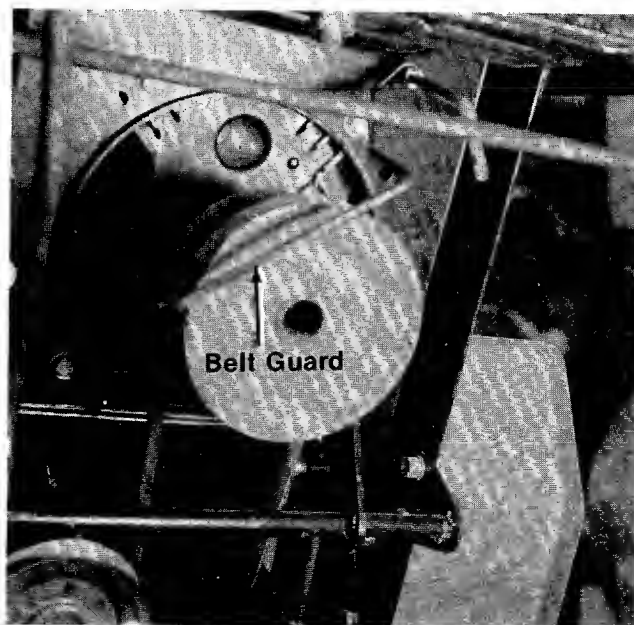

FIGURE 16.
4. Swing the belt guard forward towards the front of the tractor. See figure 16.